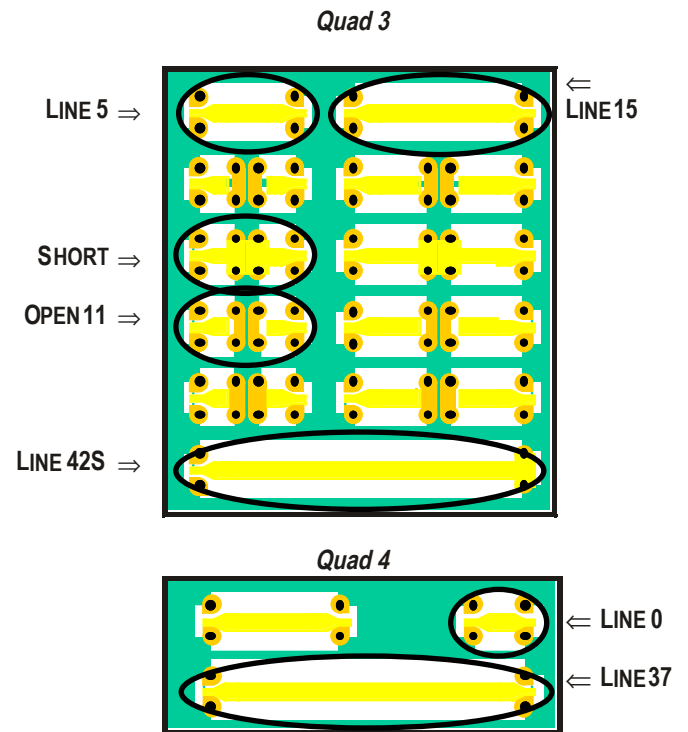

Figure 4 - TRL Calibration Structures on the ProbePoint™ CM10 Calibration Structures Substrate
2. Sequentially probe the standards standard identified in Figure 4, stepping through the cal process. It is important to place the probes at the same location with respect to the vias, when probing each calibration structure.
3. Verify the calibration. A one port verification can easily be performed by placing the probes, one at a time, on Line42S (see Figure 4). The response should be a spiral on a Smith chart, similar to Figure 5.